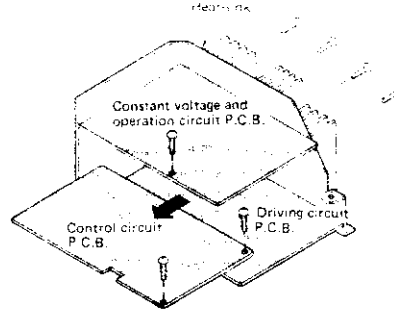

Fig. 18
- Remove the cabinet and front panel. Fig. 18